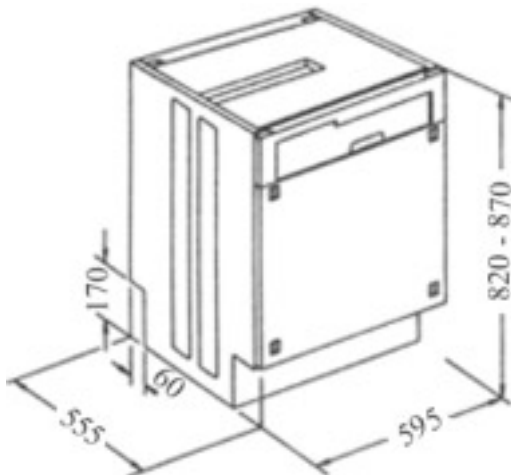

Fig. 8
1. Refer to Figures 8 and 9 for built-in dimensions.